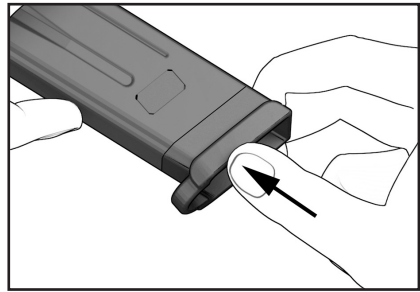

Figure 46
6. Check to see if the locking tabs on the floorplate are securely locked into the housing and the locking detent on the locking plate fits within the hole in the floorplate. (Figure 46)